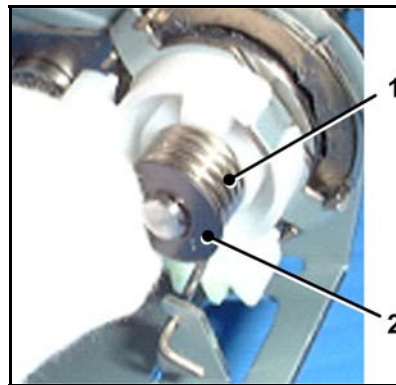

Figure 15
18. Remove the washer (2) and the spring (1) (see Figure 15). Discard the washer.